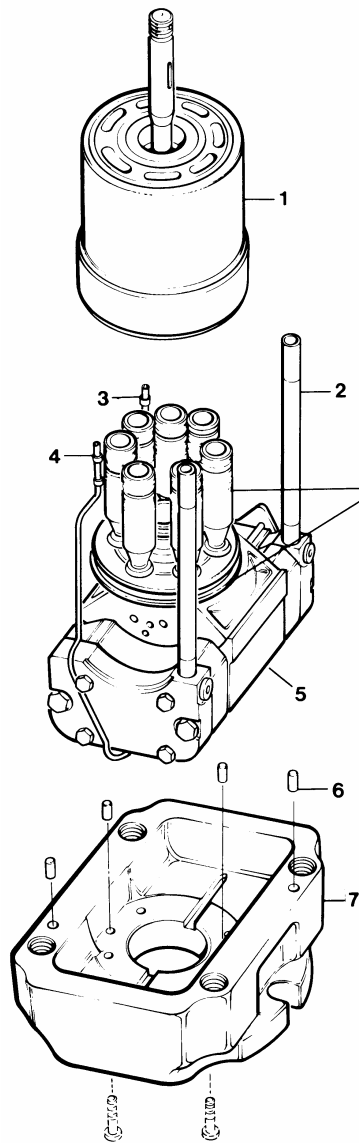

Figure 4
**See Figure 4.** Insert tube line assemblies (3 and 4) in the holes provided in cradle. **Note:** Tube assemblies must be a snug fit into holes in cradle. Expand end of tubes with a pointed tool to assure fit.
**PARTS LIST FOR FIGURE 4**
Install gasket (3) over the two dowel pins (item 6 on figure 4) in the mounting flange.
Position the housing assembly (4) over the barrel and auxiliary shaft assembly and carefully guide the pressure tubes and tube lines (items 2, 3, and 4 on figure 4) through the housing assembly (4).
| 5    | Mtg. flange, cam, barrel assembly | See Fig. 4 | 1    |
Slide the port block assembly and port plate over the end of the auxiliary shaft. Be certain that tubes 2, 3 and 4 shown on Figure 4 are engaged and that the port plate (4) is still on the pins (3).